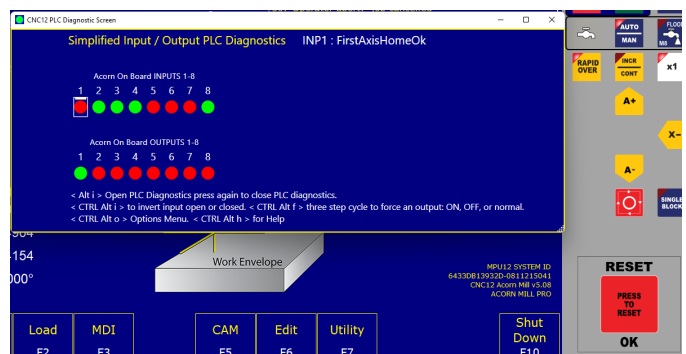

FIGURE 3—Simplified I/O PLC Diagnostic Display.
D. After making the change, click on “write setting to CNC control configuration.” Then click “OK.” Restart the Acorn controller and then restart the software (see Figure 3).